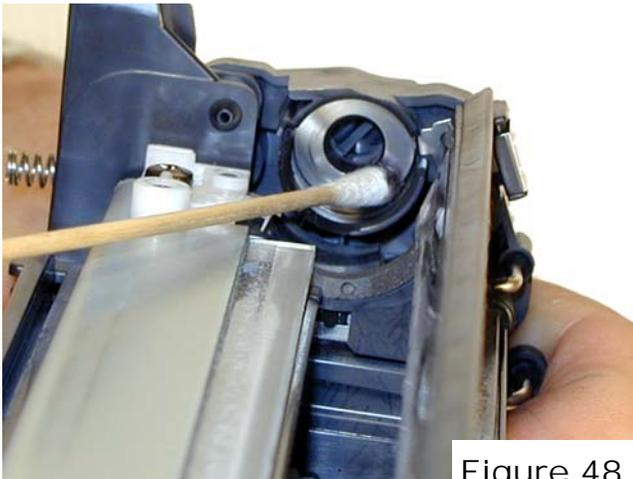

Figure 48
27) Clean the mag roller contact plate on the end cap that is still on the cartridge. Replace the conductive grease. See **Figure 48**